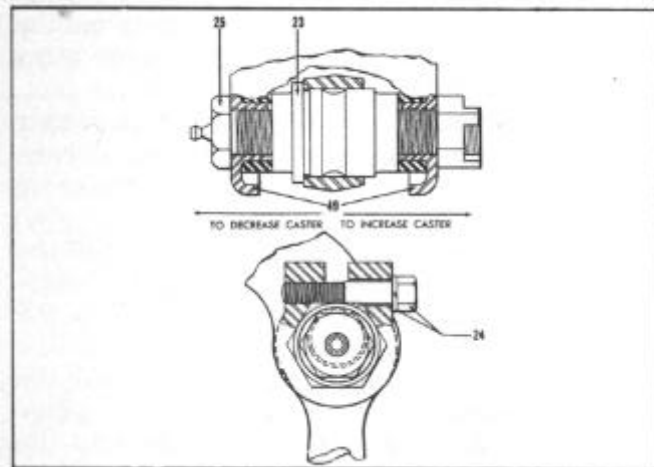
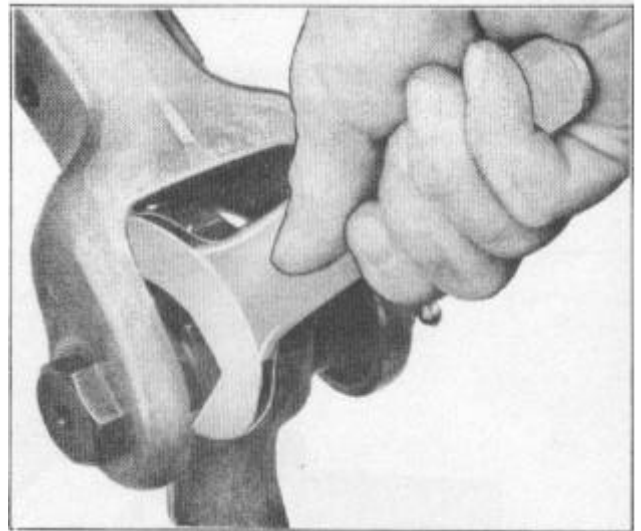

FIGURE 11
FIGURE 12
2. Remove eccentric bushing lock screw and washer (24), Figure 11.
3. Remove cotter pin, nut, and eccentric bushing pivot bolt (25).
4. Remove eccentric bushing seals (49).
5. Remove bushing (23) from the steering spindle support and upper support arm.
6. Remove eccentric bushing from steering spindle support using upper support arm eccentric bushing adjusting wrench "KMO- 366," Figure 12.
3. Insert driver tool J-990, Figure 11, into the lower bushing and drive bushing out.